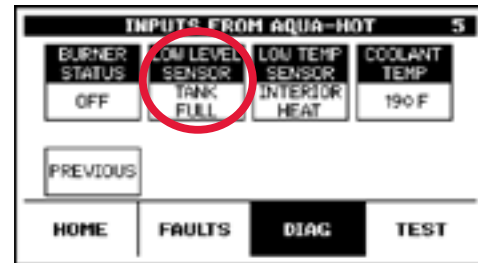

Figure 77
7. Pay attention to the "LOW LEVEL SENSOR" item on this page. See Figure 77.